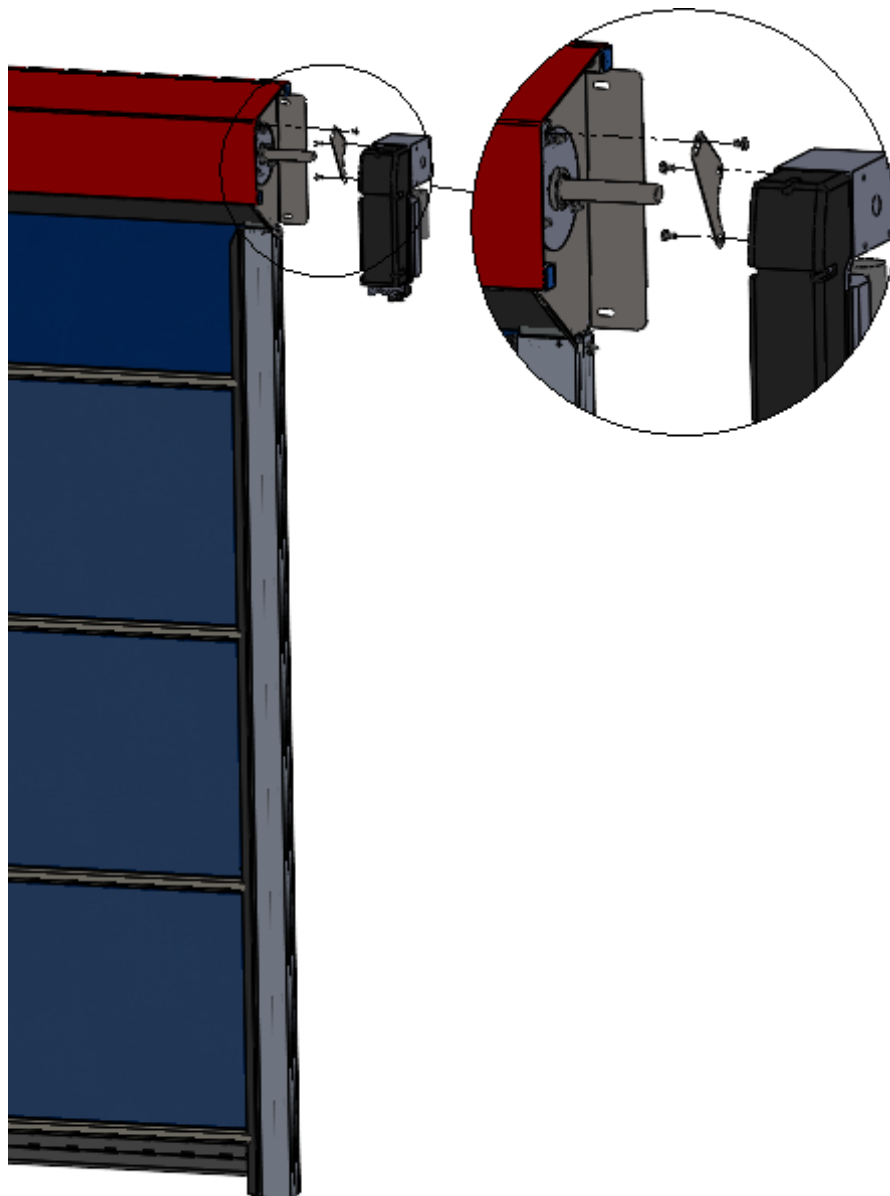

Figure 10 MOUNT ANTI-TORQUE BRACKET AND OPERATOR
1. Mount the Anti-Torque Bracket to the Operator with two (2) Metric screws (supplied). (Figure 10 MOUNT ANTI-TORQUE BRACKET AND OPERATOR)